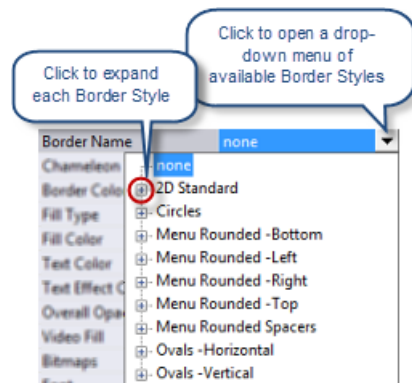

FIG. 351 Border Name (State) Property - Border Styles drop-down menu
2. In the *States* tab of the Properties window, click on the **Border Name** property. Click the down arrow to open a drop-down menu of available Border Styles (FIG. 351):